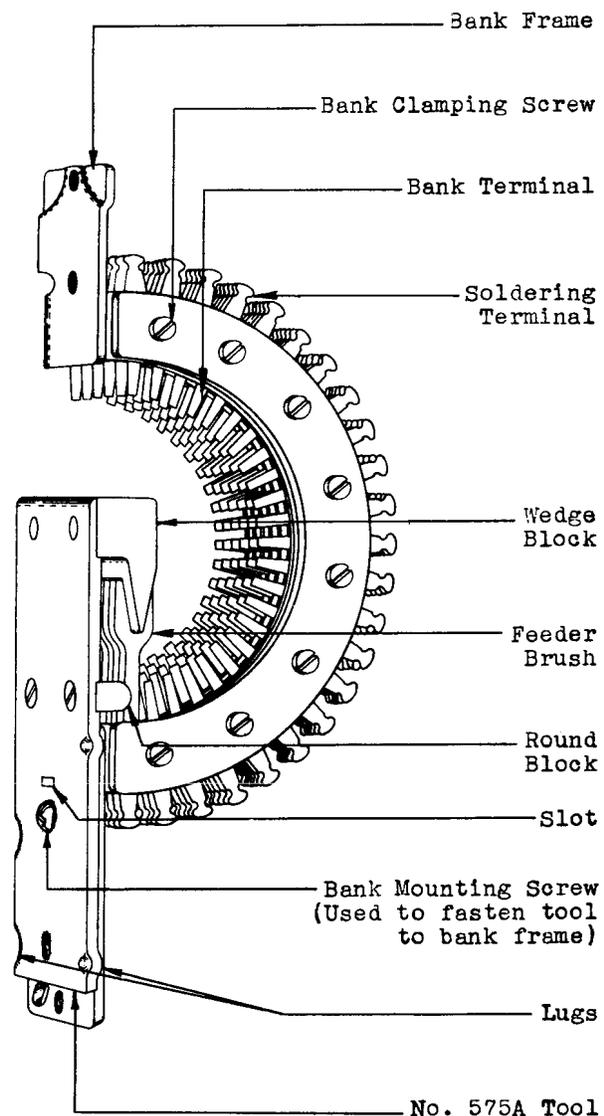

Fig. 6 - Feeder Brushes Aligned with No. 575A Tool
3.34 Reassemble the bank. Before tightening the clamping screws, press the prong ends of the brushes outward (towards the front) without forcing. With all brushes moved upward as far as the tinned part of the soldering terminal, place the No. 575A feeder brush aligner on the bank so that the wedge shaped block of the tool enters between the prongs on the feeder brushes. Move the tool toward the bank taking care that the frame of the bank goes between the lugs on the side of the tool. Force the tool down slowly until the locating pin on the bank enters the slot in the frame of the tool. Press the tool flat against the bank. With a bank mounting screw securely fasten the No. 575A tool to the bank frame using the upper clearance hole in the tool as illustrated in Fig. 6.